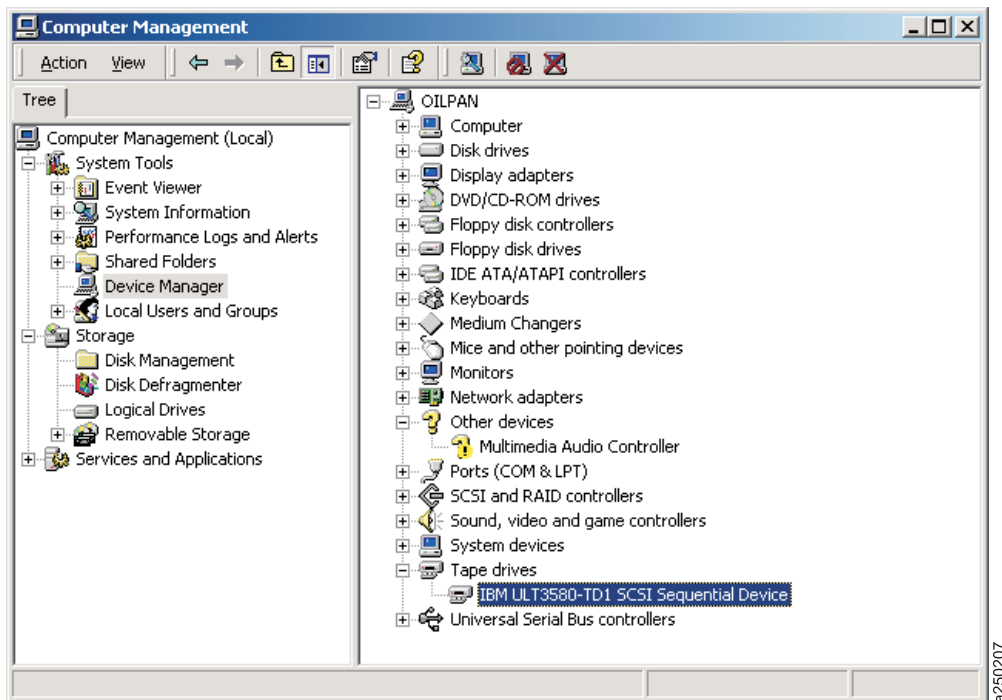

Figure 37. Verifying the Ultrium Device Was Installed Correctly
12. You should be able to verify that the device was installed correctly. See Figure 37 on page 248. Repeat all steps in this section for every device you install. Remember, if you are installing a tape library you will need to install drivers for both the tape drives and the medium changer. To install the medium changer driver, skip to "Installing the Windows 200x Driver on Medium Changers" on page 251.